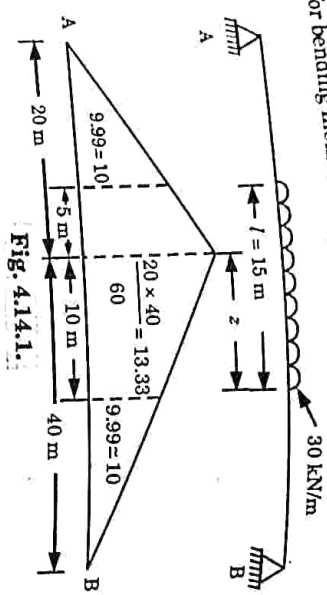

Fig. 4.14.1.
1. I/D for bending moment at given section, as shown in Fig. 4.14.1.